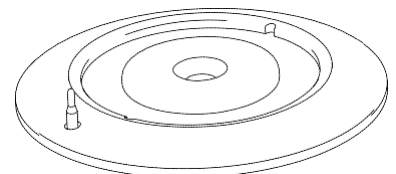
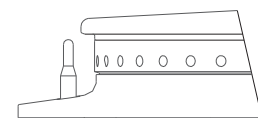

Figure 10 – Aluminium Burner Bezel
Figure 11 – Flame Sensor
- Clean any spillage from aluminium bezel (**Fig 10**), ensuring all food and cleaning material debris is removed. Dry aluminium bezel thoroughly, taking care not to damage flame sensor. (**Fig 11**)
Important - Do not allow any spillage or cleaning material debris to enter the large hole in the aluminium burner bezel. (**Fig 10**)